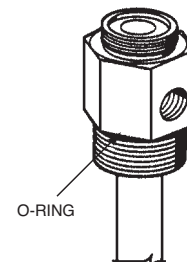

FIGURE 14
15. Examine threads on each adaptor and tank collar for nicks, burrs, or cross-threading. Clean and coat O-ring with a good grade of extreme temperature grease. Make certain bursting disc is in place and silver side is away from tank. See Figure 14.